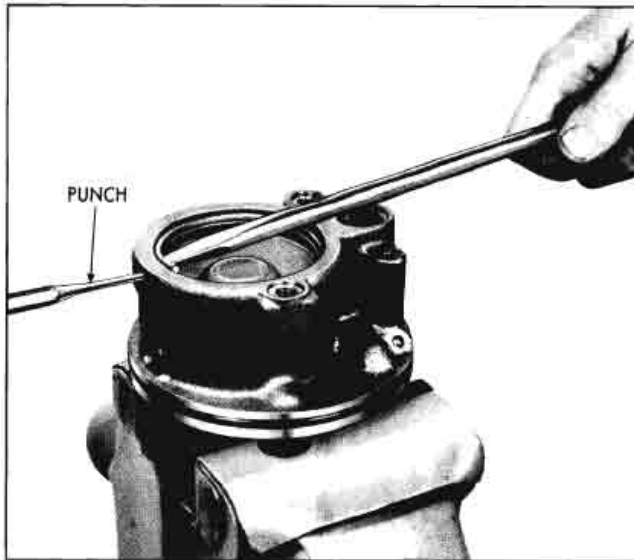

Fig. 9A-8 Removing Retaining Ring
5. Remove end plate retaining ring. Push end plate retaining ring out of groove using a punch through $\frac{1}{8}$ " diameter hole in pump housing (Fig. 9A-8), and remove with screwdriver. End of retaining ring should be next to hole to ease removal.
level. If sticking should occur, a slight tapping action will free the plate (Fig. 9A-9).